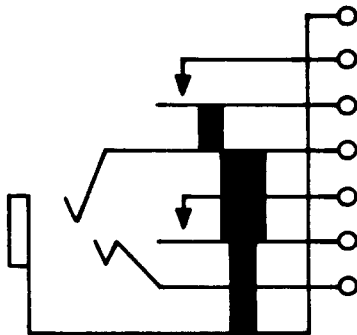

Fig. 9—323C Jack
2.09 **323C:** This single-mounted jack (Fig. 9) is used with the 309 or similar-type plugs. The 323C jack is heavily insulated.